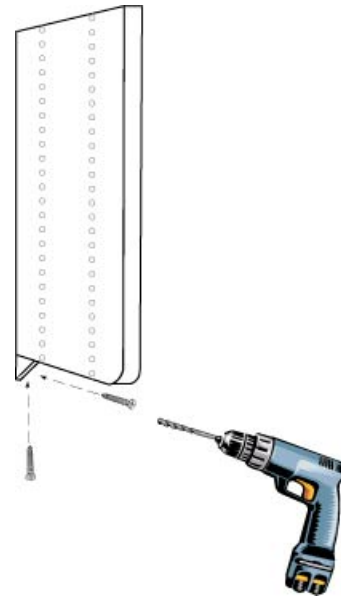

Fig. 7
16. After making any final adjustments to the brackets'/partitions' distance, fasten the top shelf to the top of each partition using two (2) #8 x 1-1/4" screws.
17. Secure each vertical partition by fastening an angle (corner) bracket under each partition using #8 x 1-1/4" screws through the bracket into an Easy Anchor in the wall (or, w/o Easy Anchor, into the stud). Then, fasten a #8 x 5/8" screw from underneath through the Easy Anchor into the partition bottom using a 90-degree angle drill. (See Fig. 7.)